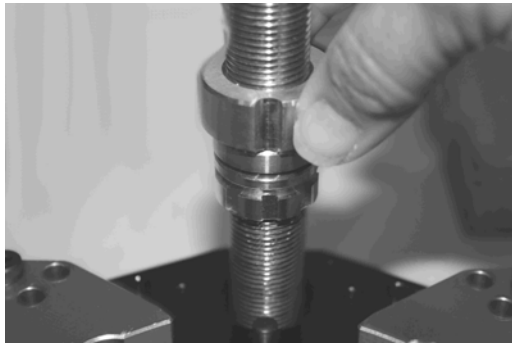

Figure 14
4. Turn the carriage nut clockwise ensuring when you complete your adjustment that the slot in the carriage nut aligns with one of the slots on the anti backlash nut. (Figure 14)